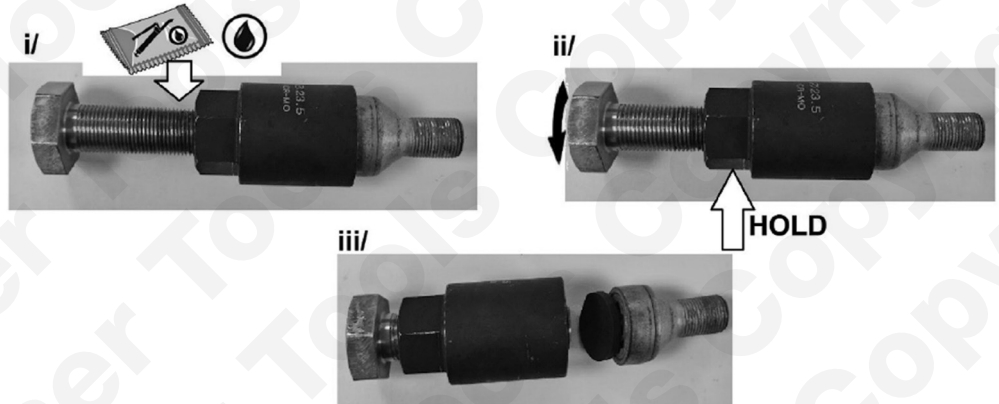

Fig.3
3. Loosen and remove the locking wheel nut with the appropriate socket and wheel brace combination as shown in figure 3.